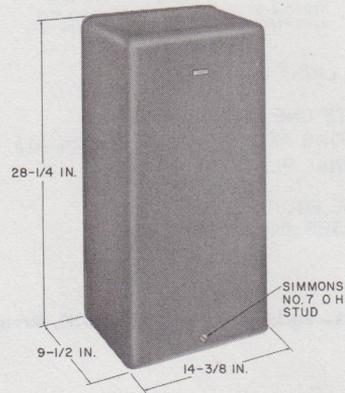

Fig. 27—Cover Per ED-69462-50, Group 2
4.02 The cover per ED-69462-50, Group 2 (Fig. 27) is a fiber glass cover designed for use with the ED-69462-01, Group 1 floor stand.